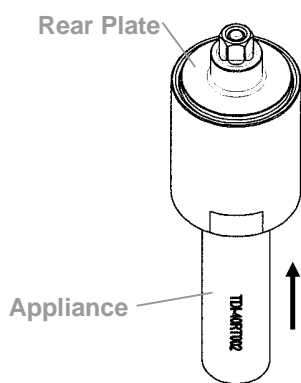

Fig. 226
- ② Use the appliance to push out the rear plate from the pulse cylinder seat. See Table 26 in reference to the proper appliance selection. (Fig. 226)